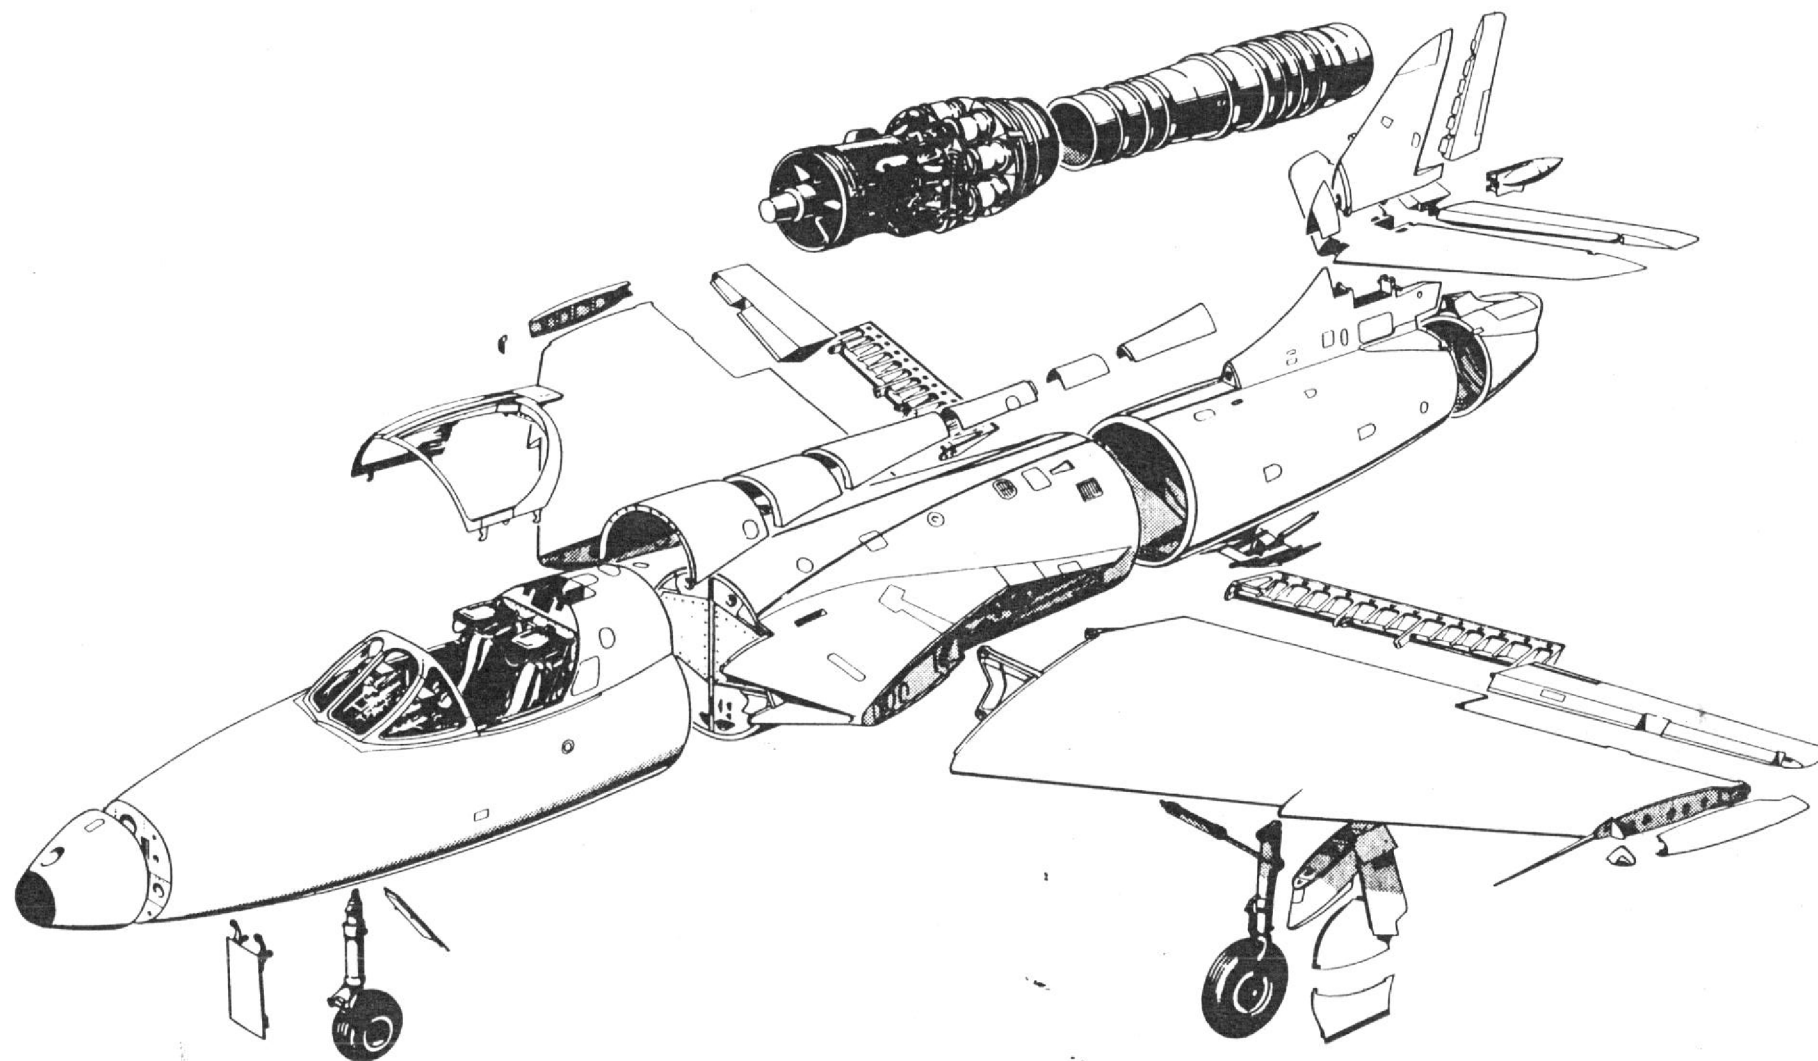

Fig.1. Major components
Packing Dimensions (fig.1)
4. The breakdown points for dismantling the aircraft are shown in fig.1. The recommended order of dismantling is as follows:-